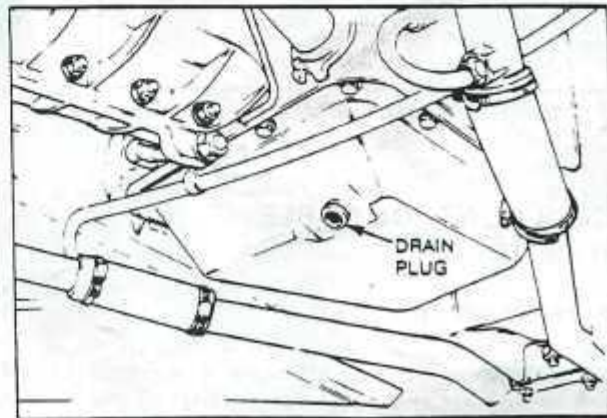

Fig. 9 TRANSMISSION FLUID DRAIN PLUG
2. Remove the drain plug from the transmission fluid pan and allow the fluid to drain thoroughly. *Fig. 9*